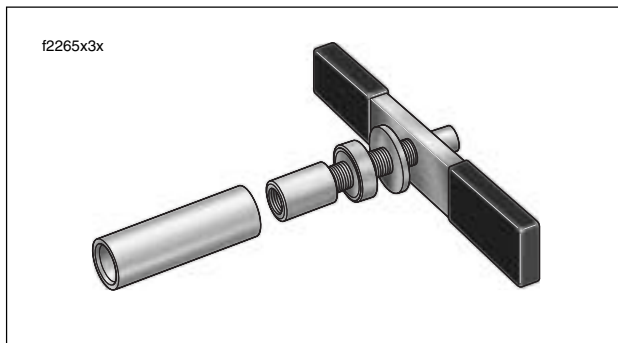

Figure 3-132. Sprocket Shaft Timken Bearing Cone Installer (Part No. HD-97225-55B)
4. Obtain the SPROCKET SHAFT TIMKEN BEARING CONE INSTALLER (HD-97225-55B). See Figure 3-132. Assemble tool as described below.